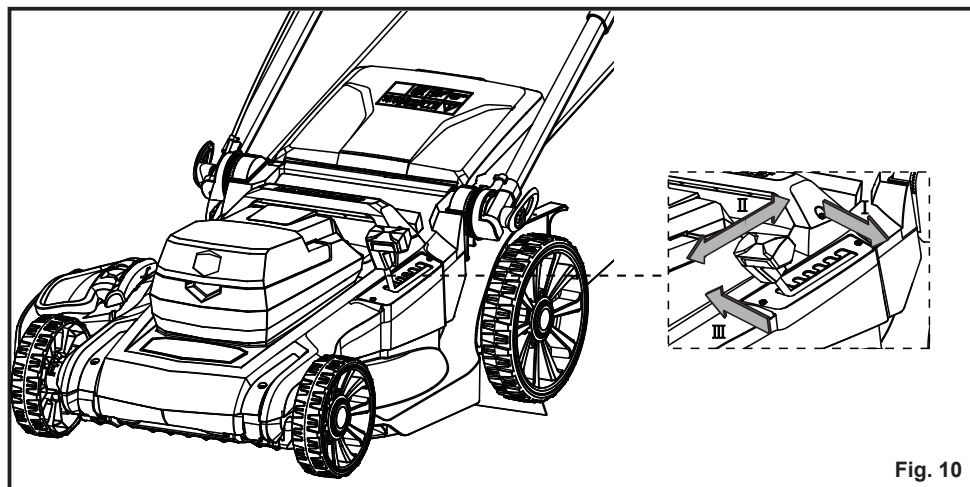

Fig. 10
1. To raise the cutting height, grasp the cutting height adjustment lever, then move it toward the back of the mower and engage the lever in the desired cutting height position on the mower deck (Fig. 10).
2. To lower the cutting height, grasp the cutting height adjustment lever, then move it toward the front of the mower and engage the lever in the desired cutting height position on the mower deck (Fig. 10).